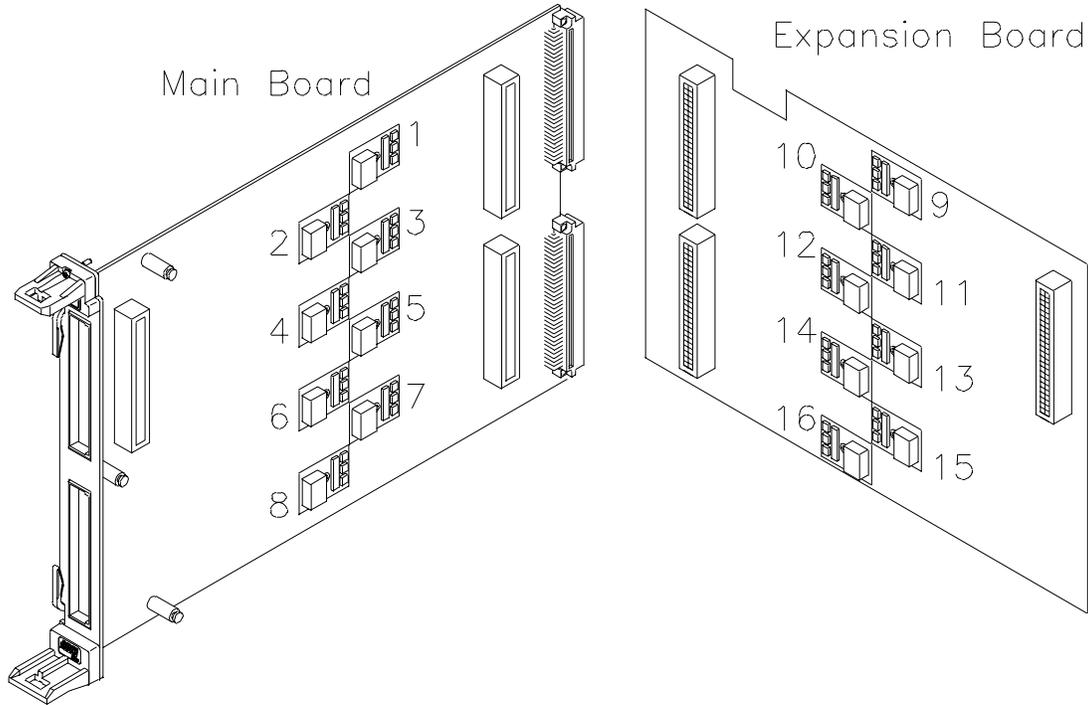

Figure E-3. Plug-on Channel Locations
3. Refer to Figure E-3 for the locations of the isolated/non-isolated plug-on modules. Each channel **must** have a plug-on module. Remove the screw securing the plug-on module(s).